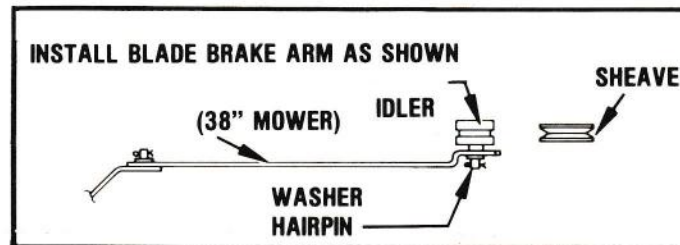

FIGURE 8
19. Attach mower brake link to stud under attachment idler and secure with hair pin. See Figure 8.
1. Lower the Attachment Lift lever. One front set of pins and washers will connect the tabs on the front of the mower to the front hangers, the second set of pins and washers connect the front of the mower to the belt tightener bracket. The rear set of pins and washers connect the rear hangers to the frame. See Figure 8.